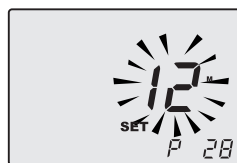

Fig. 9.3
- Scroll through the various parameters using key 17 or 18 until the LCD display indicates the letters **P28** and the value of the parameter, indicating entry in "parameter 28" (Fig. 9.3).